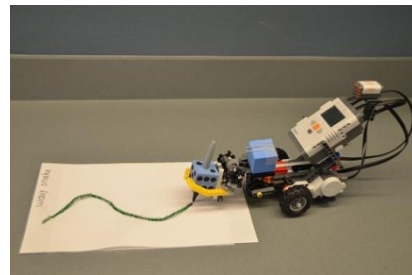

Figure 4
- Makes a pen mark by putting the pen down, then up again. See Figure 4
- Grasps another unit (block) held in the gripper by staff, and drives it to the end of the previous unit and releases it. See Figure 4